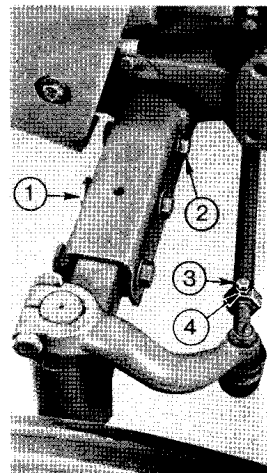

FIG. 30
2. Fig. 30. Remove the three bolts (2) and nuts (1) each side.